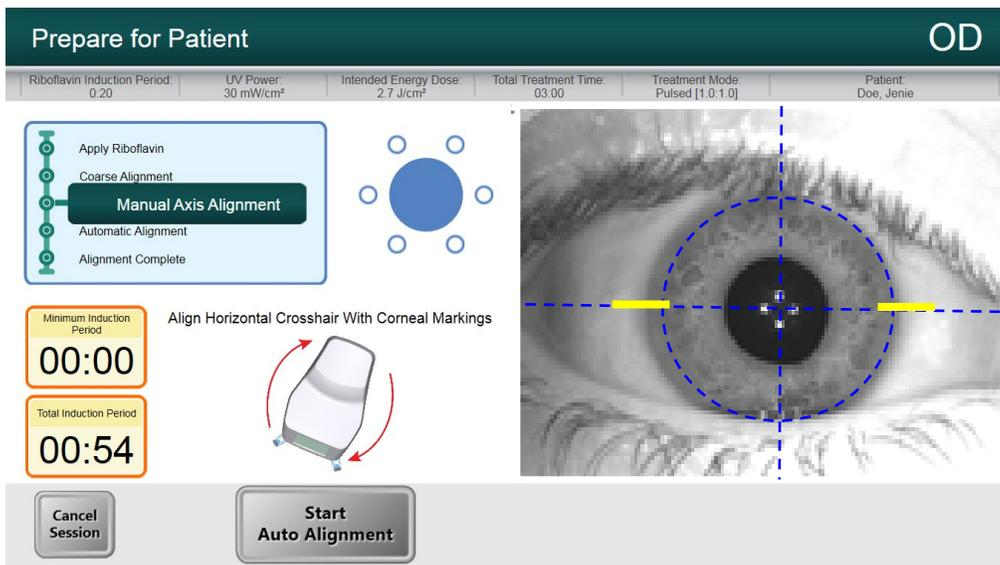

Figure 5-19. Manual Axis Alignment Mode
- Select “Manual Axis Alignment” to illuminate the cornea rendering the axis markers on the cornea clearly visible, as shown in Figure 5-19.